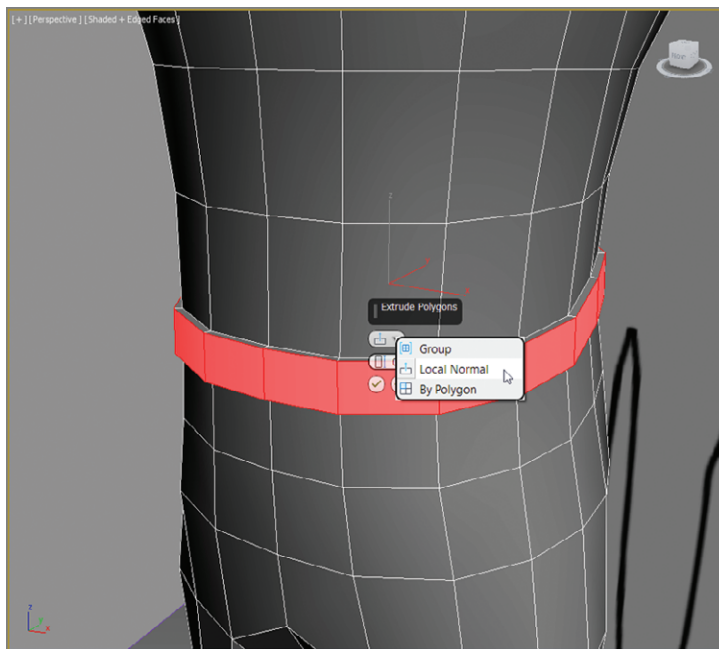

FIGURE 8.5 Extrude polygons for the belt.
5. Next, select the modeling ribbon > Polygons > Extrude > Extrude Settings, and make sure you extrude by Local Normal with a Height value of 0.5, as shown in Figure 8.5.